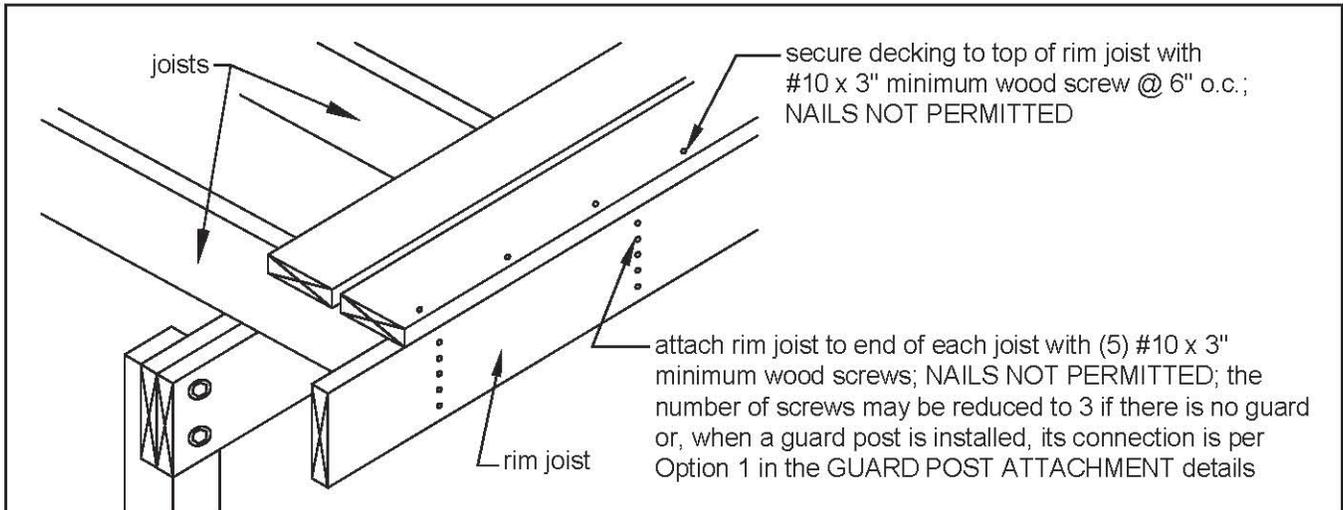

FIGURE 11: RIM JOIST CONNECTION DETAILS
All decking material shall be composed of 2x6 or $\frac{5}{4}$ ("five-quarter") board. Attach decking to each joist with a minimum of (2) 8d nails or (2) #8 screws. Space decking with a $\frac{1}{8}$ " gap between each board. See FIGURE 11 for decking connection requirements at the rim joist. Decking may be placed from an angle perpendicular to the joists to an angle of 45 degrees to the joists.
Attach a continuous rim joist to the ends of joists as shown in FIGURE 11. Attach decking to the rim joist as shown in FIGURE 11. For more decking attachment requirements, see DECKING REQUIREMENTS on Sheet 2.